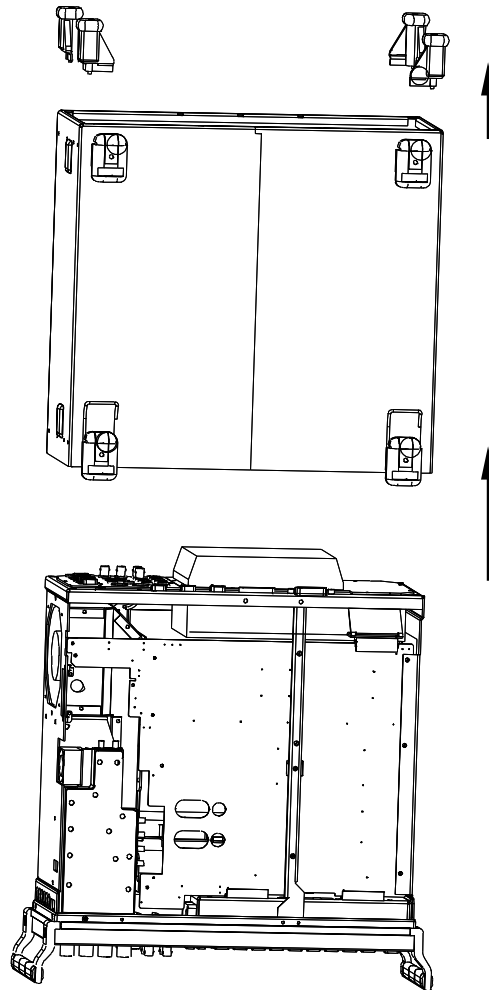

Fig. 1
- 1.3 Place unit on handles at the front, push casing upwards and remove (Fig. 1).